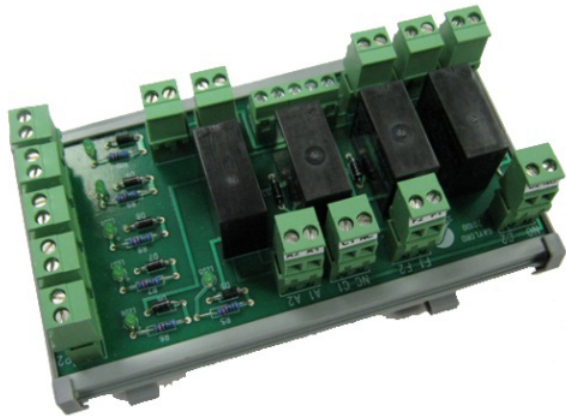

Figure 5-22-2
2. Loosen and slide off the end retainer (Refer to Figure 5-22-2).